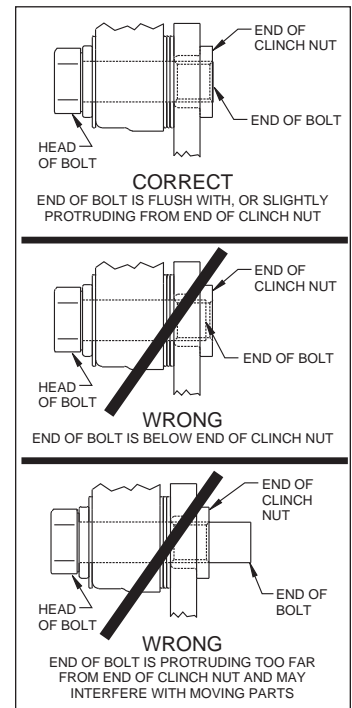

Figure 4. Clinch Nut Engagement Diagram
(numbers in parenthesis refer to the parts list on the preceding page and Figure 1): **CAUTION:** All mounting bolts must fully engage clinch nuts. Be sure to check that all bolts are either flush or protruding through flanged side of clinch nut after shimming, Figure 4.
- Pack the small outer bearing cone (15) with high temperature disc brake bearing grease and install into hub (8). Slide the hub/rotor assembly onto the spindle. Secure using spindle washer (16) and OEM spindle nut, Photo 6. Adjust bearings per OEM specifications. Install saved OEM nut lock (if any) and a new cotter pin (not supplied).
- Screw dust cap (17) into hub (8), Photo 7. Friction created by the o-ring (18) on the dust cap keeps it from unscrewing. **NOTE:** The O.D. of the existing OEM spindle washer may be larger than the I.D. of the dust cap not allowing it to seat against the hub face. Therefore, use the spindle washer (16) supplied with the kit instead of the OEM washer.
- NOTE:** Please reference the caution statement at the beginning of the assembly instructions. Mount the caliper (19) onto the caliper mounting bracket (1) using bolts (21) and washers (20), as shown in Figure 1. Initially place two .035" thick shims (22) on each bolt between the caliper and the bracket, Photo 8. Temporarily tighten the mounting bolts and view the rotor (12) through the top opening of the caliper. The rotor should be centered in the caliper, Photo 9. If not, adjust by adding or subtracting shims between the bracket and the caliper. Always use the same amount of shims on each of the two mounting bolts. **NOTE:** The end of each bolt must be flush with or slightly protruding from the head of the clinch nut, as shown in Figure 4. If necessary place spare shims between washer (20) and caliper mounting ear to achieve the proper clinch nut engagement. Once the caliper alignment and clinch nut engagement are correct, remove the bolts one at a time, apply red *Loctite*® 271 to bolt threads, and torque to 40 ft-lb.